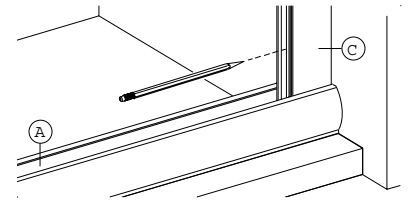

figure 2
3. Place Wall Jamb (C) into ends of Sill (A) and up against shower walls as shown in figure 2. Plumb the Jamb, then pencil mark their installation hole locations on the shower walls (3 per jamb). Remove Wall Jamb. Using a 3/16" masonry bit, drill 1" deep installation holes in locations previously marked. Insert Plastic Screw Anchors (P) into holes.
4. Reposition Wall Jamb (C) as before and secure Jamb to walls using the six(6) 1-1/4" Installation Screws provided (3 per jamb).
5. Measure the wall to wall shower opening at top of Wall Jamb, then trim Header (B) to 1/16" less than measurement obtained. Position Header atop Wall Jamb.